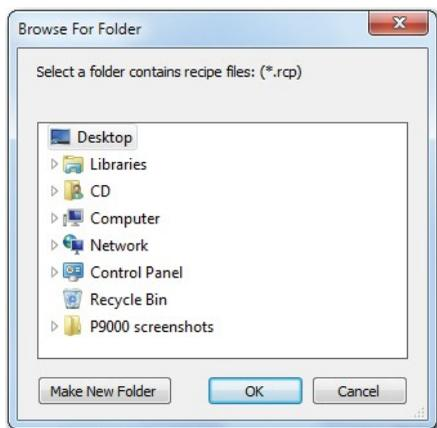

FIGURE 3-32: Selecting backup directory
4. Click **Browse**. The Browse for Folder dialog box opens. See Figure 3-32.